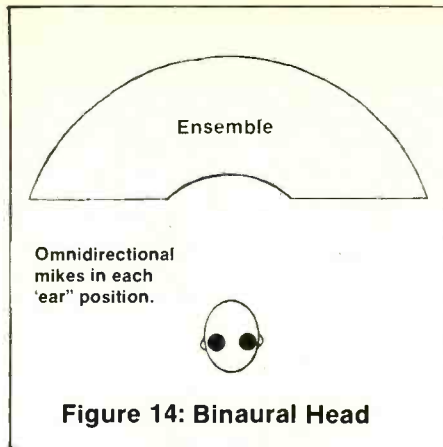

Figure 14: Binaural Head
8. Binaural Head utilizes an artificial human head with microphones mounted in the ear openings, as shown in Figure 14.